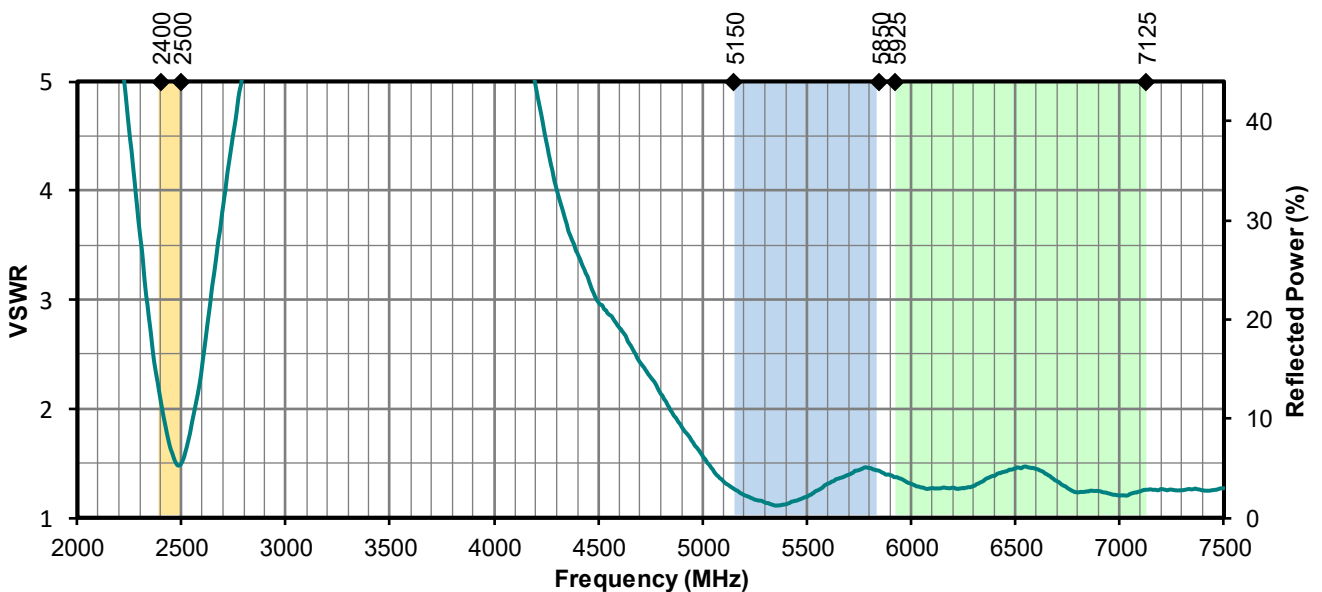

Figure 5. Antenna VSWR, No ground plane
**Figure 5** provides the voltage standing wave ratio (VSWR) across the antenna bandwidth. VSWR is a function of the reflection coefficient, which describes the power reflected from the antenna back to the radio. A lower VSWR value indicates better antenna performance at a given frequency. Reflected power is also shown on the right-side vertical axis as a gauge of the percentage of transmitter power reflected back from the antenna.